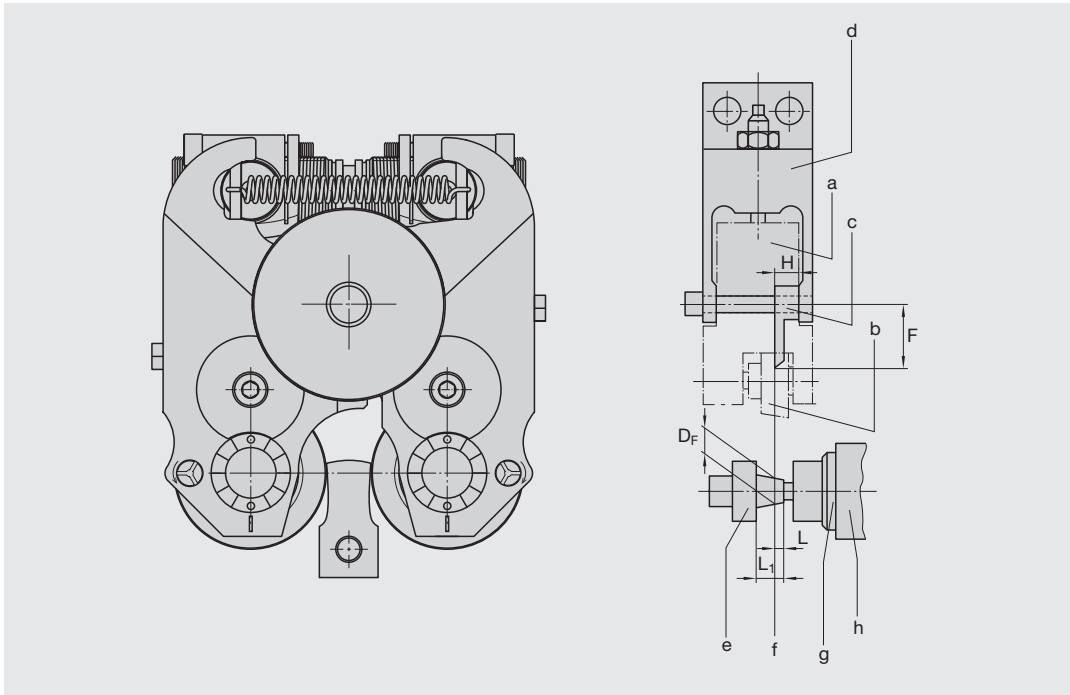

Figure 12: Using the setting gauge for conical threads
2. Make sure that the setting gauge touches the workpiece on the reference plane of the conical thread. (see Figure 12)